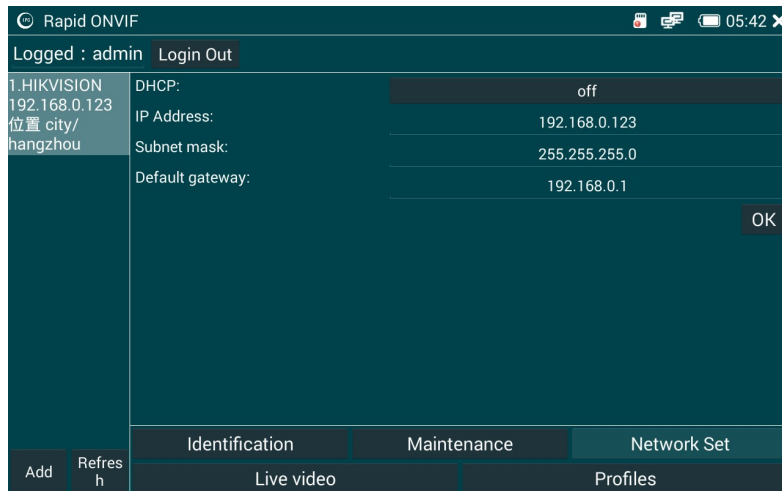

Figure 20
2) network settings, click the main interface network Settings button to enter the camera network parameter setting function , as shown in Figure 20: